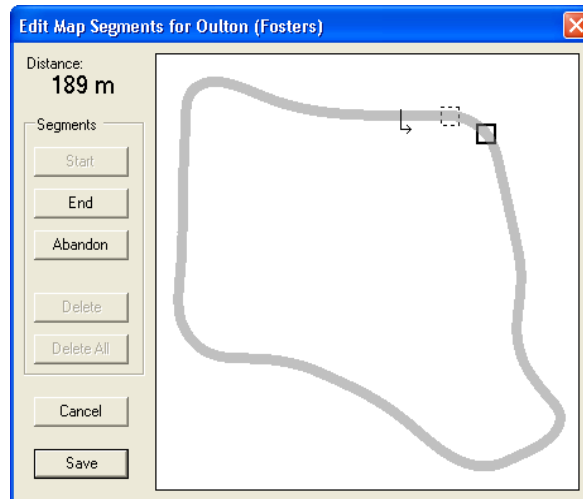

Figure 22 - Edit Map Segments Dialog (Defining a Segment)
3. Mark the start point of the segment by clicking on the map and then clicking **Start**. The start point of the segment is marked with a square drawn in a dashed line (see Figure 22). The **Start** button is disabled and the **End** and **Abandon** buttons are enabled.